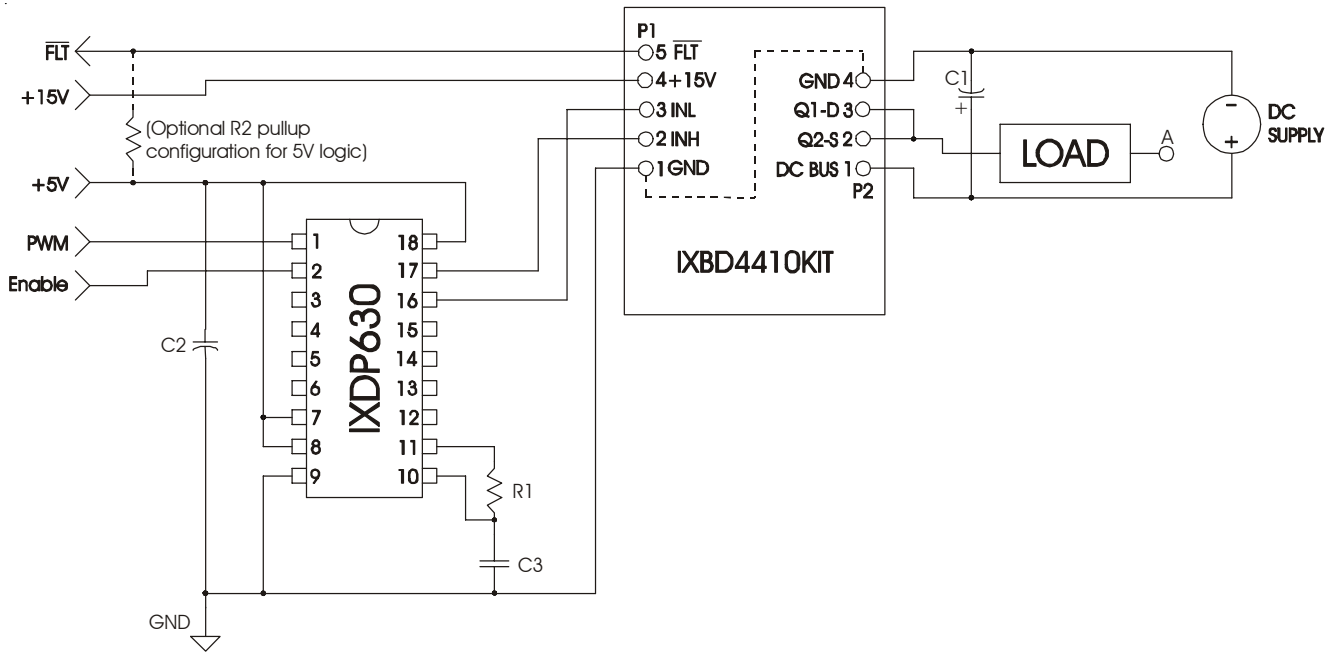
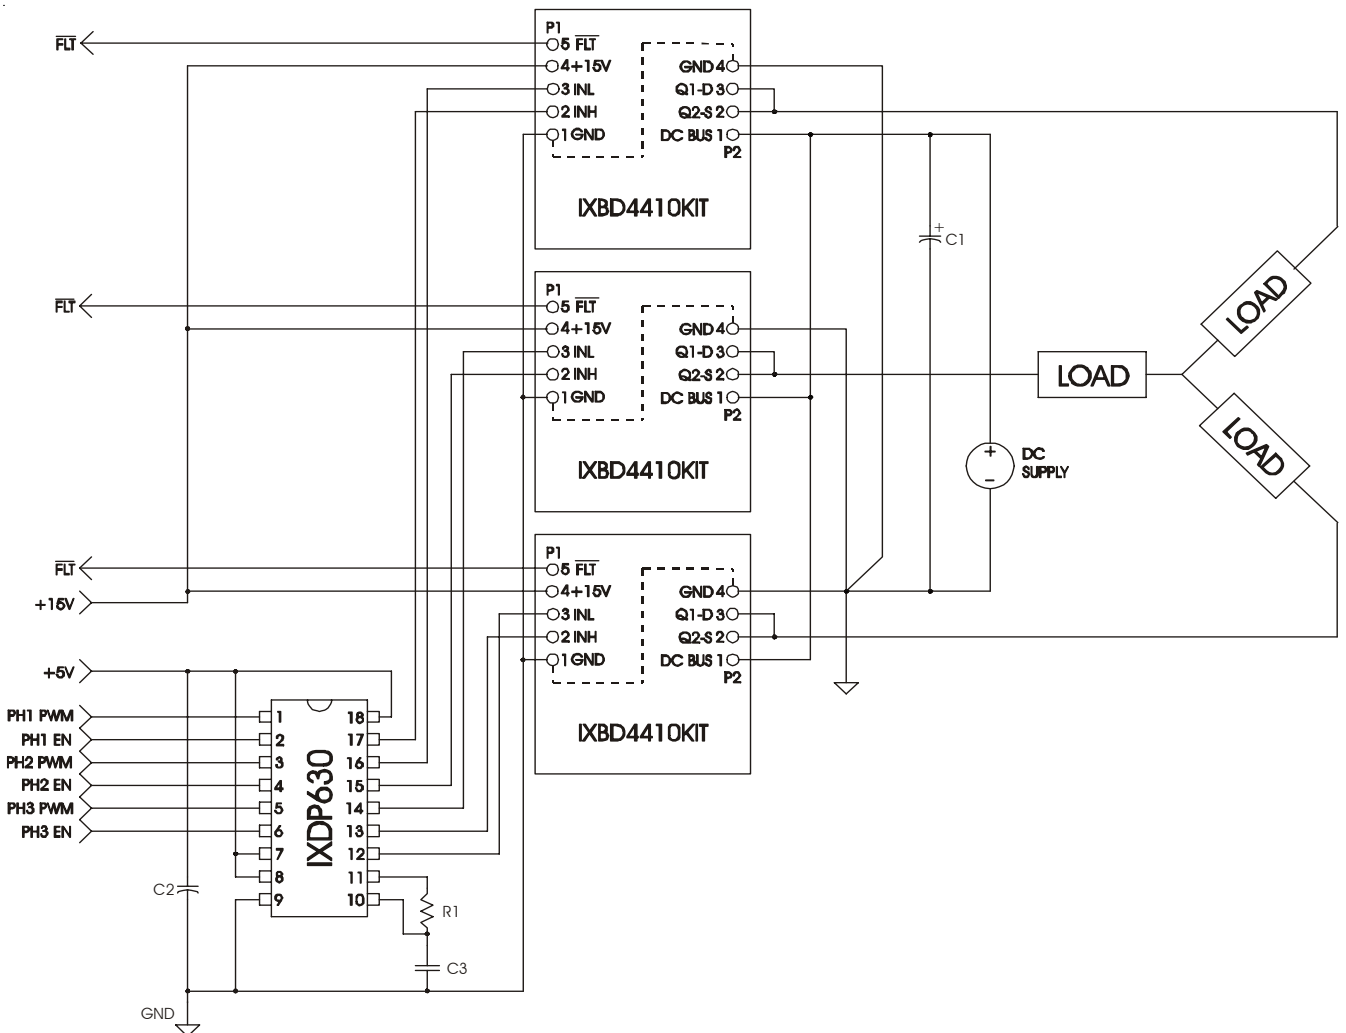
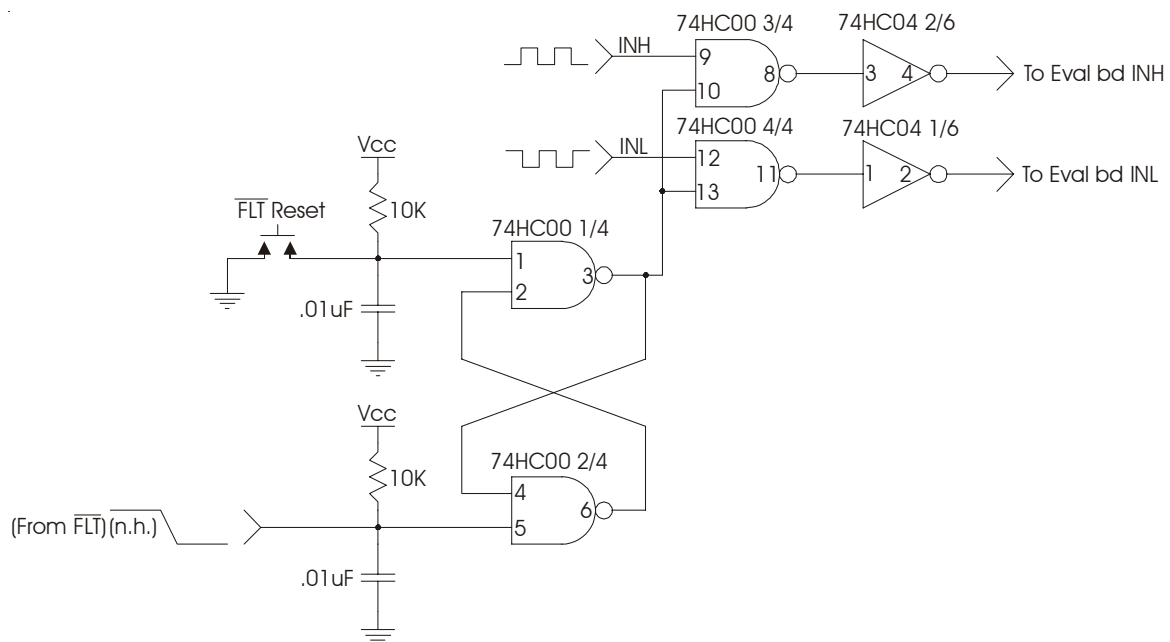

Figure 4: Dead Time Generator & Load Termination
Figure 5: Three Phase Configuration with Dead Time Generator
Figure 6: Simple Fault Protection Logic Circuit
b) Be careful with ground connections. Avoid ground loops. In general, connect the grounds as shown in Figure 4 to minimize ground bounce effects. This is particularly important when three "High/Low side driver design kits" are connected together with a single IXDP630 to form a three phase drive system, such as that shown in Figure 5.
c) Before using the PCB at full power or attempting a short circuit test, make sure that a proper high voltage electrolytic capacitor is connected between DC BUS and GND as shown in Figure 4. The leads to this capacitor should be as short as possible to minimize any stray inductance.
d) Figure 4 shows the load terminated at point A. This point could be connected to a number of places depending on the application. For example: Connection to ground will test the high side device. Connection to DC BUS will test the low side device. It could also be connected to the center point of a capacitive divider (UPS systems).
e) Figure 5 shows a three phase power system implementation with a load configured in a Y (star). It could also be configured in a DELTA configuration. Please note the grounding scheme. Cut the connection between "ground plane 2" and "ground plane 4" on the components side of the PCB and solder a 10 Ohm resistor between these ground planes. The GND of each board is terminated to a single ground point.
In Figures 4 & 5, the schematic assumes the designer will be using some type of external control system for starting the circuit and/or resetting the circuit in the event a fault occurs. As an alternative, Figure 6 demonstrates a simple and inexpensive Start/Reset logic circuit for manually implementing fault protection.
Figure 6 shows the addition of two IXDD414's. These are CMOS high-speed MOSFET drivers that have a 14A Peak Output Drive Capability, allowing the 4410/11 chipset to drive a pair of IXFK90N20Q 90A/200V Power Mosfets. (The 2 ohm gate resistors shown should be Non-Inductive High Performance Film resistors such as those available from Caddock. Particular attention also needs to be paid to Supply Bypassing, Grounding, and minimizing the Output Lead Inductance when designing such a high power circuit layout).